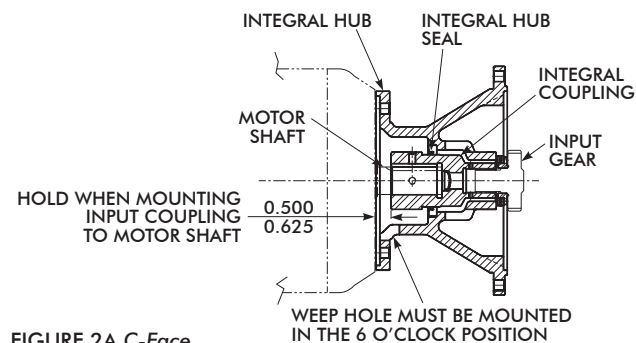

FIGURE 2A C-Face
- a. **C-Face:** Locate the C-Face coupling 0.500" to 0.625" from the motor face (**Hint:** Standard 1/2" to 5/8" key stock is helpful for this purpose). Refer to the illustration in Figure 2A.